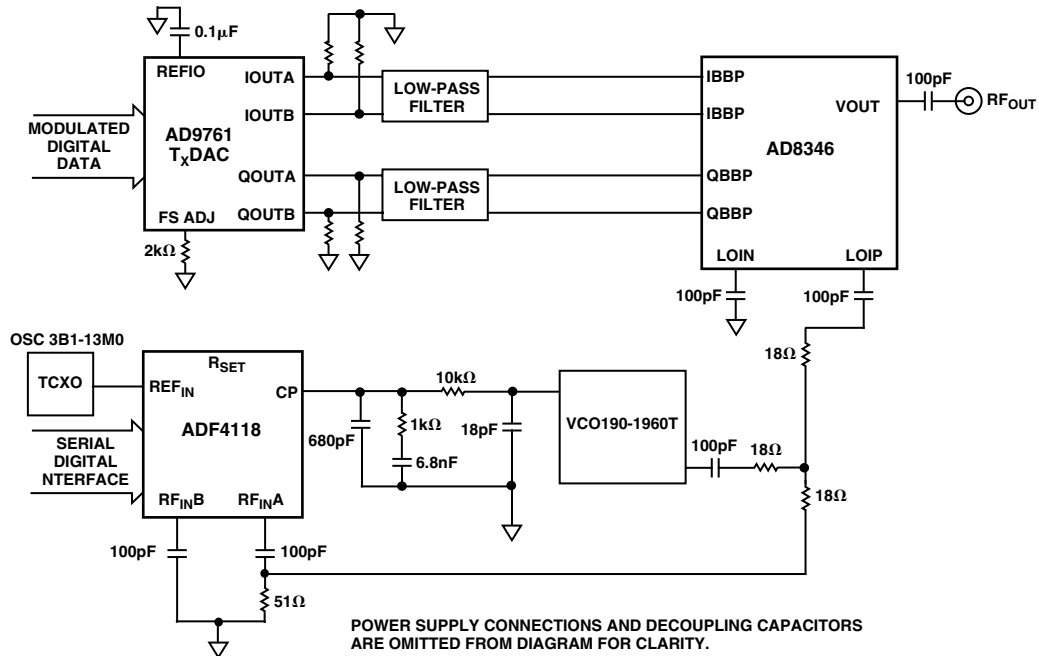

Figure 9. Direct Conversion Transmitter Solution
In some applications a direct conversion architecture can be used in base station transmitters. Figure 9 shows the combination available from ADI to implement this solution.
The Local Oscillator (LO) is implemented using the ADF4117/ADF4118. In this case, the OSC 3B1-13M0 provides the stable 13 MHz reference frequency. The system is designed for a 200 kHz channel spacing and an output center frequency of 1960 MHz. The target application is a WCDMA base station transmitter. Typical phase noise performance from this LO is  $-85 \text{ dBc/Hz}$  at a 1 kHz offset. The LO port of the AD8346 is driven in single-ended fashion. LOIN is ac-coupled to ground with the 100 pF capacitor and LOIP is driven through the ac-coupling capacitor from a  $50 \Omega$  source. An LO drive level of between  $-6 \text{ dBm}$  and  $-12 \text{ dBm}$  is required. The circuit of Figure 9 gives a typical level of  $-8 \text{ dBm}$ .
The RF output is designed to drive a  $50 \Omega$  load but must be ac-coupled as shown in Figure 9. If the I and Q inputs are driven in quadrature by 2 V p-p signals, the resulting output power will be around  $-10 \text{ dBm}$ .